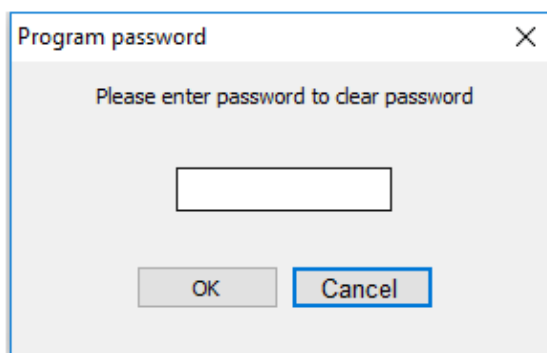

Figure 3-23
- 2) Software display windows as Figure 3-23 shows;